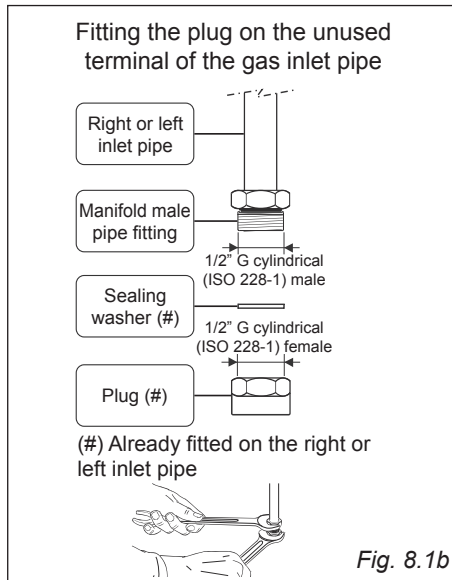

Fig. 8.1b
- The unused inlet pipe must be closed off with the cap and sealing washer supplied (fig. 8.1b).